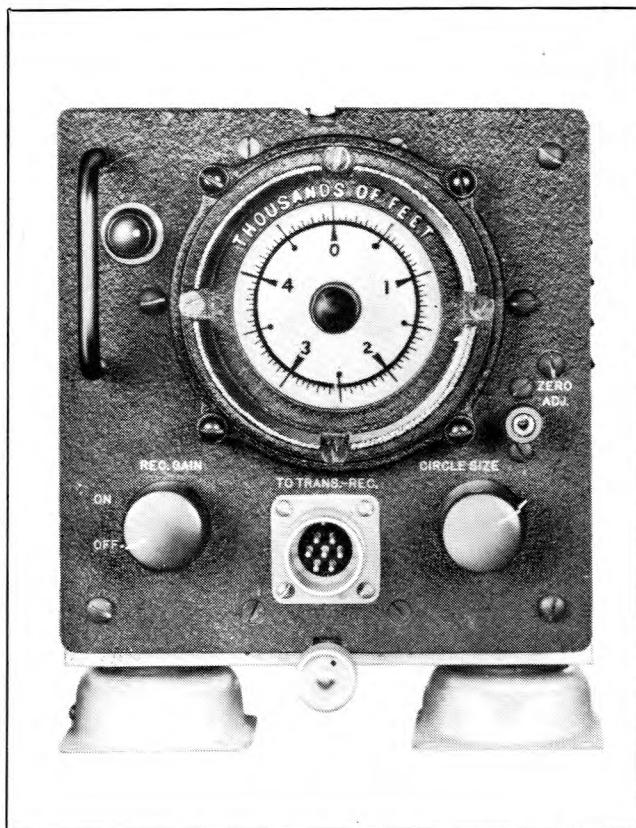

Figure 1-4. Indicator I-152-A or I-152-AM
b. INDICATOR I-152-(*).—The indicator indicates aircraft height above terrain. (See figs. 1-4,